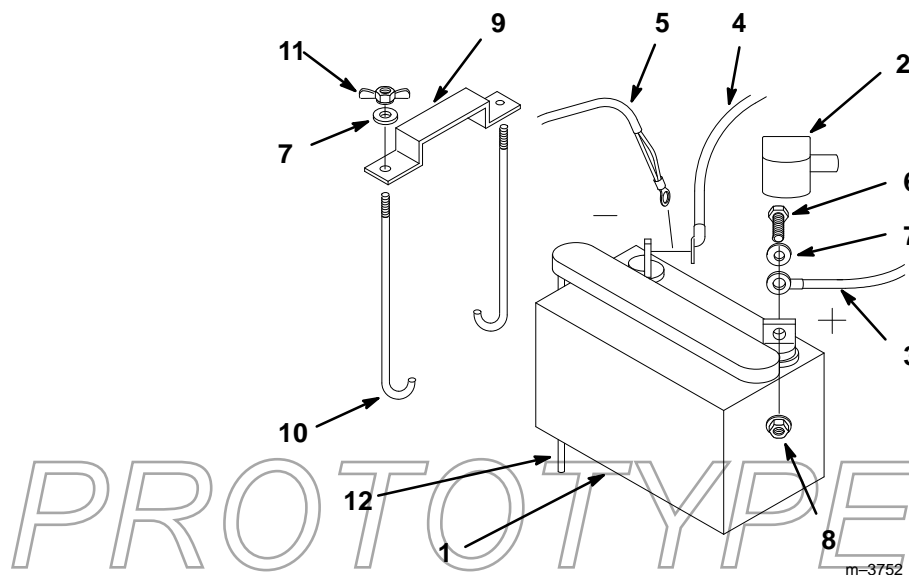

Figure 7
9. Position battery in tray with terminal posts toward the engine (Fig. 7).
12. Secure cables with (2) 1/4 x 3/4" (19 mm) bolts 1/4" washers and 1/4" locknuts (Fig. 7).
13. Secure battery with J-bolts, hold down clamp and (2) 1/4" washers and (2) 1/4" wing nuts (Fig. 7).